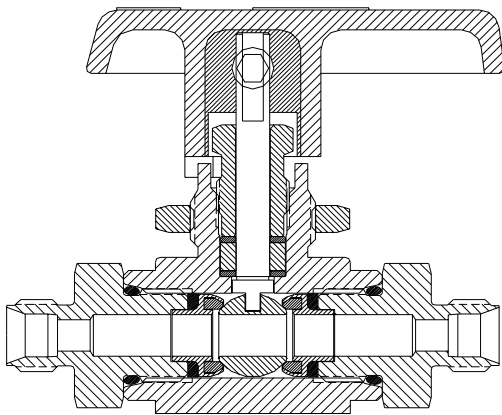
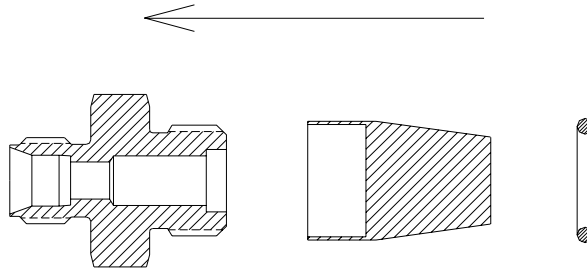

Figure 1: Two-Way B Series Ball Valve with PTFE Packing Cross Sectional View
Figure 5: Installing an O-Ring on an End Connector
2. Refer to Figures 1 thru 3, as applicable for the Valve's configuration. Place an O-Ring on each End Connector as illustrated in Figure 5, exercise care not to damage or scratch the O-Rings.